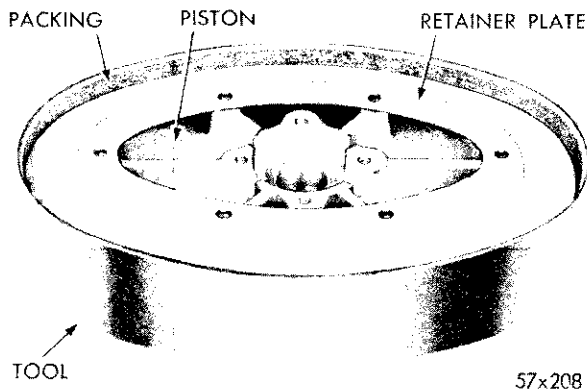

Fig. 61—Packing and Retainer Plate Installed
(2) Place the leather packing on the piston with the lip side up. Place the packing retainer plate on the packing, with the raised portion side up and the holes in the plate aligned with those in the piston, as shown in Figure 61.